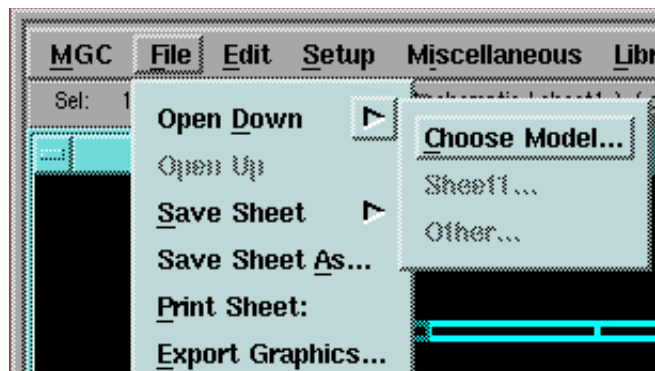

Figure 2-44. File > Open Down Menu
6. Choose the **File > Open Down > Choose Model** menu item shown in Figure 2-44.